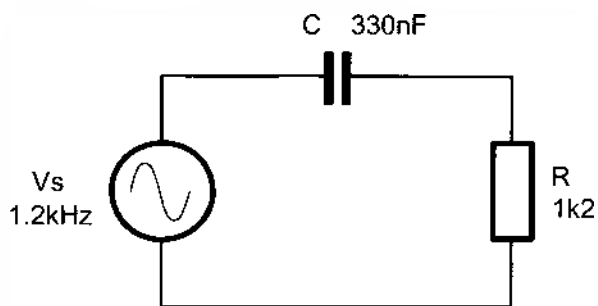

Figure 5
9. For the circuit of Figure 5, if the potential difference across the resistor (V_R) is 9.5V, then calculate: